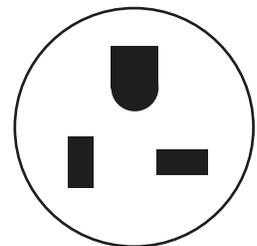

Fig. 64
*North American T2s come with a water-resistant NEMA L5-20P locking connector and an adapter for the NEMA 5-20P (see Fig. 64).